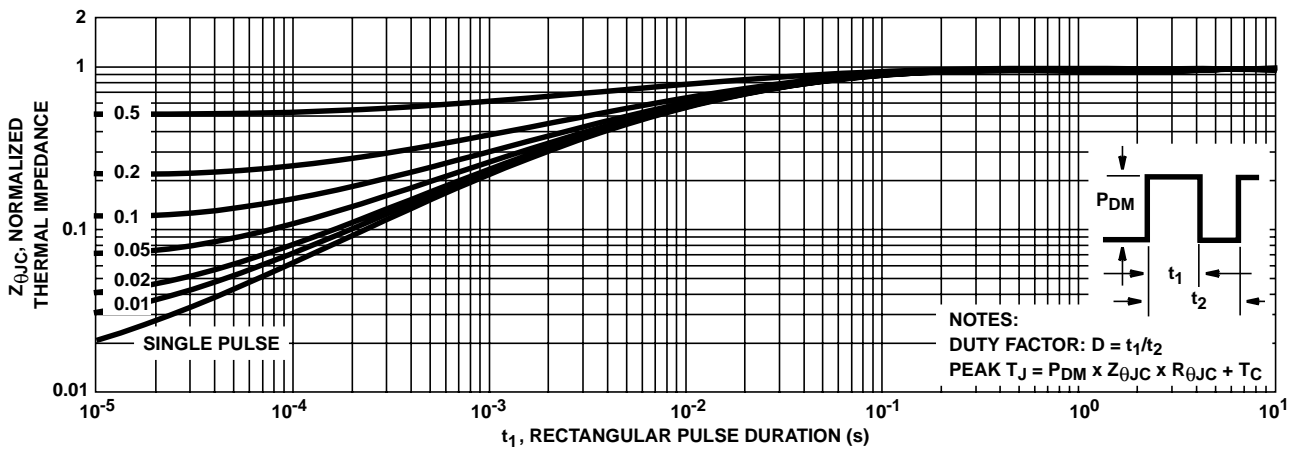

FIGURE 3. NORMALIZED MAXIMUM TRANSIENT THERMAL IMPEDANCE
- Repetitive Rating: Pulse Width limited by max junction temperature. See Transient Thermal Impedance curve (Figure 3).